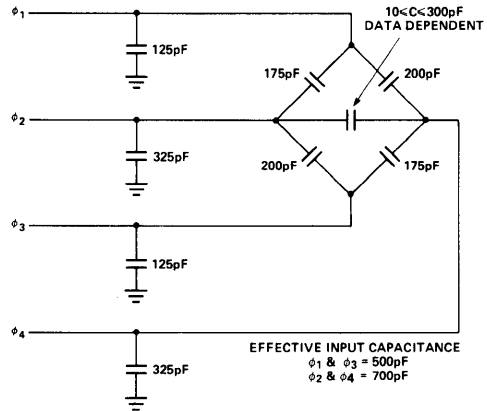

Figure 2. 2416 Equivalent Capacitance Circuit. (Maximum values shown.)
2. Output Load = Four 2416 clock inputs or equivalent per Figure 2
The equivalent circuit of the 2416 clock phase inputs is shown in Figure 2. The magnitude and duration of the cross-coupling are graphically presented in Waveform B and specified in the A.C. Characteristics. Figure 3, on the next page, shows the noise margin between these specifications and the 2416 input requirements.